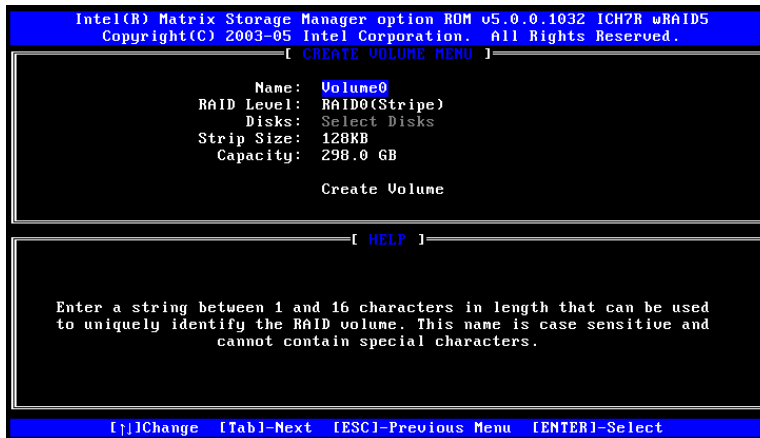

Figure D-2: Create RAID Volume Name
**Step 2:** Name the RAID volume. Enter a name for the RAID volume, or press **ENTER** to accept the default volume name. Upper and lower case alphabetic, numeric, space, and underscore characters are all applicable for naming an array. See Figure D-2.